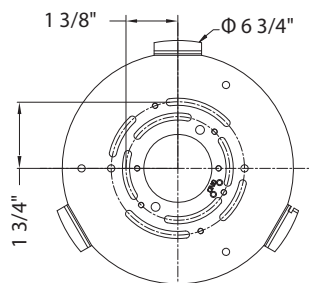

Fig. 4
10. Mount the canopy against the mounting plate. Turn and rotate the canopy in the direction of the arrow until it stops. Secure the fixture using the mounting screws (C).
11. For sloped ceiling applications, rotate the swivel at the top of the rods to ensure luminaire is aiming down (Fig. 4).